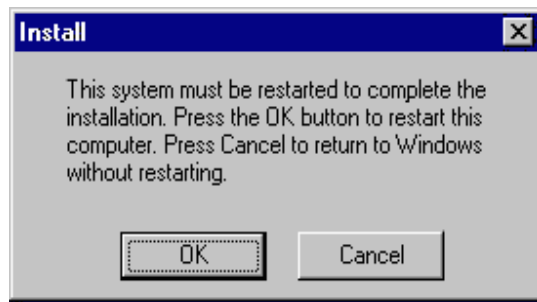

Figure 10 Restart System Window
15. A window is displayed indicating your computer must be restarted. Click **OK** to restart the computer and complete the installation. See Figure 10.